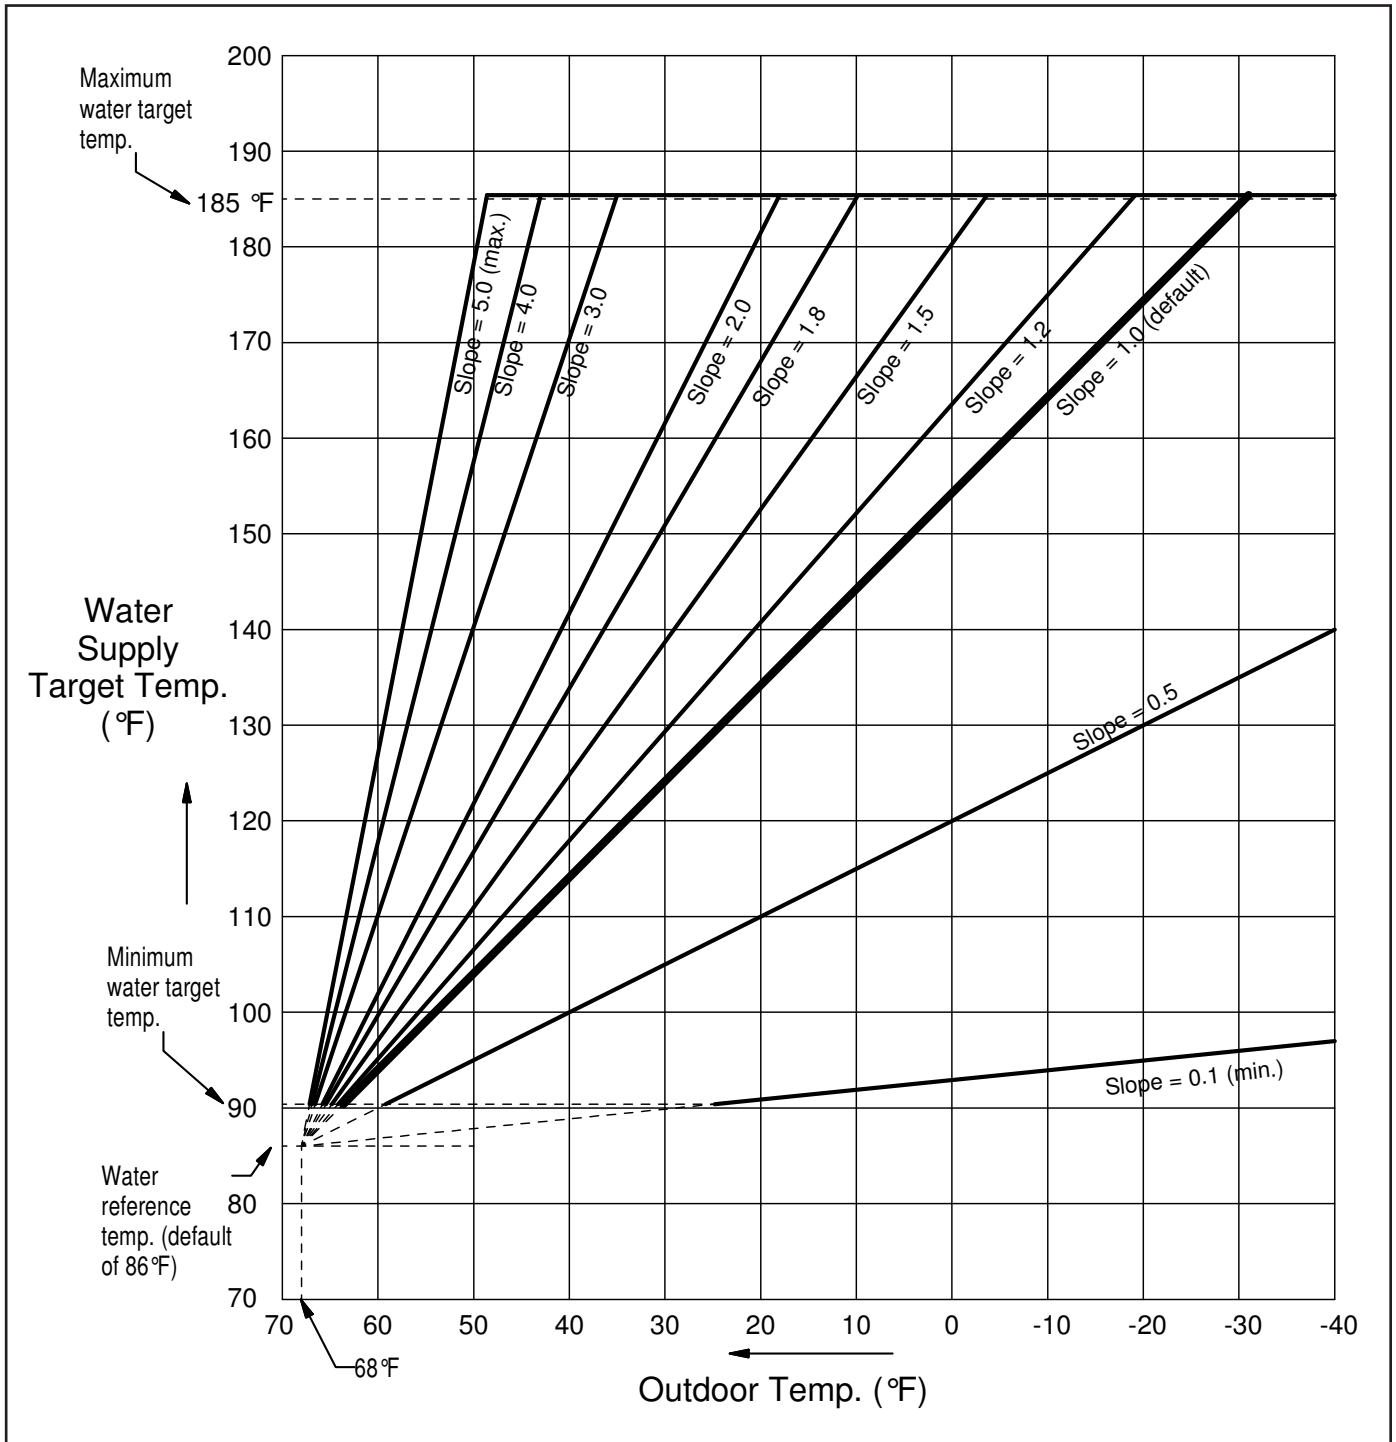

Figure 19. Space Heating mode with outside sensor water set point graph.
2. Select space heating option in "c-t" mode of the Master boiler. Mode 0,1 or 2 may be selected. If mode 1 or 2 (system with outdoor sensor) is selected, weather compensation slope and set point temperatures may be changed in mode "o-d", "o-S" and "o-t". See figure 19, pg 25.